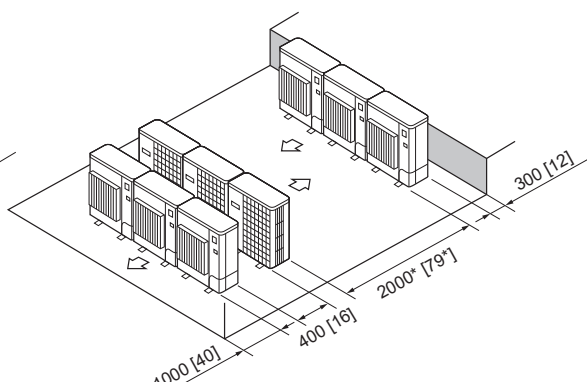

Fig. 2-17
6. Multiple parallel unit arrangement (Fig. 2-17)